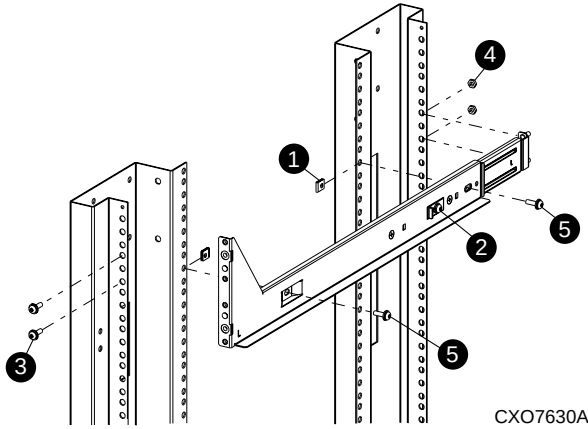

Figure 7: Mounting bracket installation
- Attach U-nut ❶ to each of the four inner rails of cabinet (see Figure 7).
- Extend the mounting bracket so that the rear studs are completely inserted through the two rail-rear holes pencil marked “R.” Swing the left mounting bracket-front directly behind the left rail-front, aligning the middle two mounting bracket-front holes with the rail holes pencil-marked “F.” See Figure 7.
- Secure the mounting bracket-front with two pan head SEMS screws ❸ (10-32 x 5/8 in) and each mounting bracket-rear stud with a KEP nut ❹.
- Secure the inner side of the mounting bracket using two pan head SEMS screw ❺ (10-32 x 3/4 in). See Figure 7.
- Fully tighten two screws located on each of the mounting bracket’s stop bracket ❷ (see Figure 7).